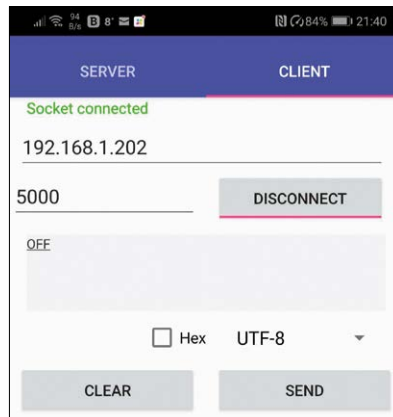

Figure 9.19 Enter OFF to turn OFF the LED
- Enter message **OFF** and click SEND as shown in Figure 9.19 and you should see the LED to turn OFF